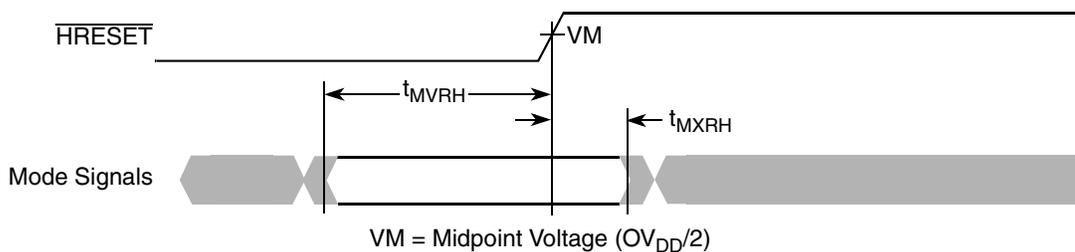
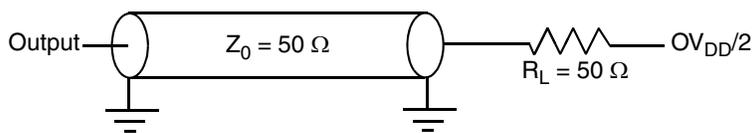
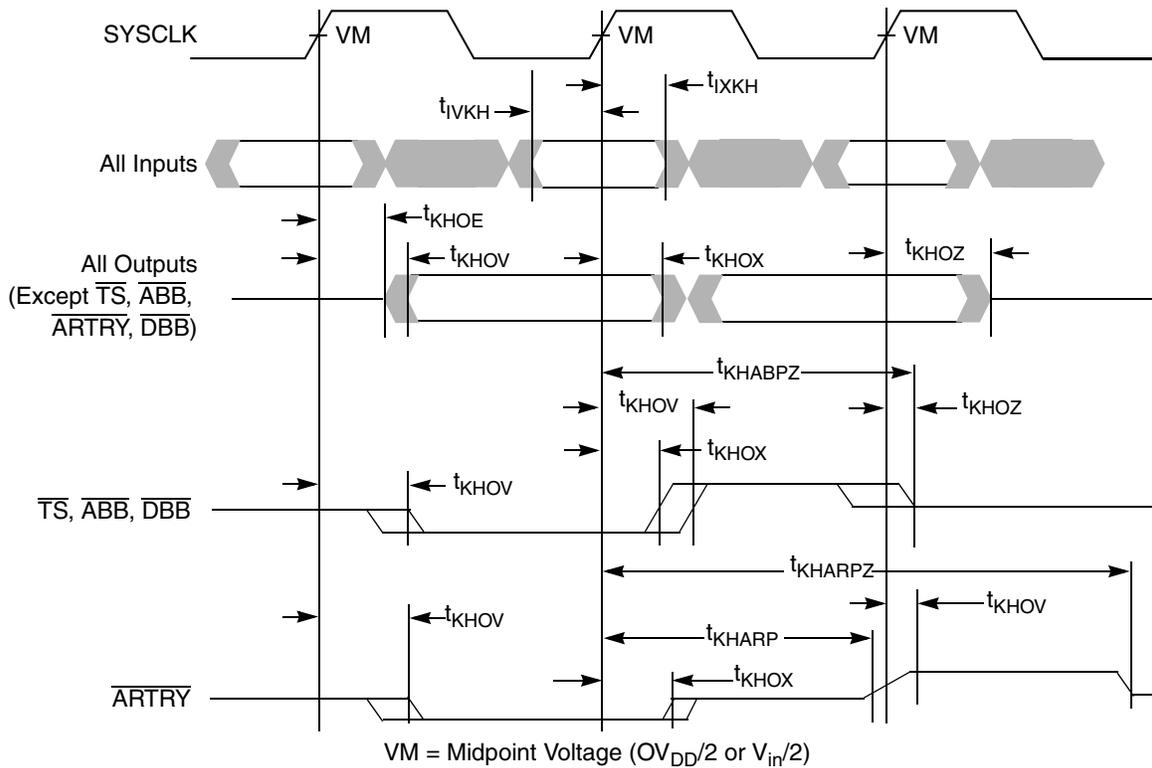

Figure 4. Mode Input Timing Diagram
Figure 5. AC Test Load
Figure 6. Input/Output Timing Diagram
Table 9 provides the processor bus AC timing specifications for the MPC755 as defined in Figure 4 and Figure 6. Timing specifications for the L2 bus are provided in Section 4.2.3, “L2 Clock AC Specifications.”
- All input specifications are measured from the midpoint of the signal in question to the midpoint of the rising edge of the input SYSCLK. All output specifications are measured from the midpoint of the rising edge of SYSCLK to the midpoint of the signal in question. All output timings assume a purely resistive 50- Ω load (see Figure 5). Input and output timings are measured at the pin; time-of-flight delays must be added for trace lengths, vias, and connectors in the system.
- The symbology used for timing specifications herein follows the pattern of $t_{(\text{signal})(\text{state})(\text{reference})(\text{state})}$ for inputs and $t_{(\text{reference})(\text{state})(\text{signal})(\text{state})}$ for outputs. For example, t_{IVKH} symbolizes the time input signals (I) reach the valid state (V) relative to the SYSCLK reference (K) going to the high (H) state or input setup time. And $t_{KH OV}$ symbolizes the time from SYSCLK (K) going high (H) until outputs (O) are valid (V) or output valid time. Input hold time can be read as the time that the input signal (I) went invalid (X) with respect to the rising clock edge (KH)—note the position of the reference and its state for inputs—and output hold time can be read as the time from the rising edge (KH) until the output went invalid (OX).
- The setup and hold time is with respect to the rising edge of $\overline{\text{HRESET}}$ (see Figure 4).
Figure 4 provides the mode select input timing diagram for the MPC755.
Figure 5 provides the AC test load for the MPC755.
- Per the 60x bus protocol, \overline{TS} , \overline{ABB} , and \overline{DBB} are driven only by the currently active bus master. They are asserted low, then precharged high before returning to high-Z as shown in Figure 6. The nominal precharge width for \overline{TS} , \overline{ABB} , or \overline{DBB} is $0.5 \times t_{sysclk}$, that is, less than the minimum t_{sysclk} period, to ensure that another master asserting \overline{TS} , \overline{ABB} , or \overline{DBB} on the following clock will not contend with the precharge. Output valid and output hold timing is tested for the signal asserted. Output valid time is tested for precharge. The high-Z behavior is guaranteed by design.
- Per the 60x bus protocol, \overline{ARTRY} can be driven by multiple bus masters through the clock period immediately following \overline{AACK} . Bus contention is not an issue since any master asserting \overline{ARTRY} will be driving it low. Any master asserting it low in the first clock following \overline{AACK} will then go to high-Z for one clock before precharging it high during the second cycle after the assertion of \overline{AACK} . The nominal precharge width for \overline{ARTRY} is $1.0 t_{sysclk}$; that is, it should be high-Z as shown in Figure 6 before the first opportunity for another master to assert \overline{ARTRY} . Output valid and output hold timing is tested for the signal asserted. Output valid time is tested for precharge. The high-Z and precharge behavior is guaranteed by design.
Figure 6 provides the input/output timing diagram for the MPC755.